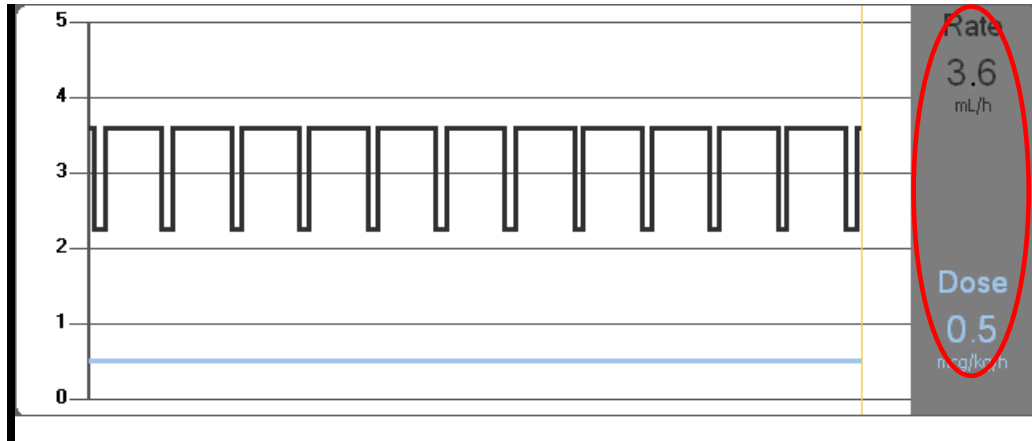

Fig 22
- The volume rate and the dose rate of the infused drug (Fig 22);
- If the pump is set to “Pharmacokinetic” mode, three lines are displayed on the chart, corresponding to: 1) the target value; 2) the plasmatic concentration; 3) the “effect site” concentration. The displays on the right show the three corresponding values (Fig 22);